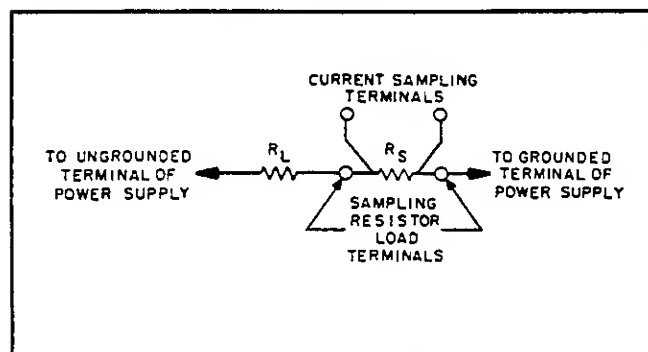

Figure 5-6. Current Sampling Resistor Connections
**5-40** For all output current measurements, the current sampling resistor must be connected as a four-terminal device in the same manner as a meter shunt would be. The load current is fed to the extremes of the wire leading to the resistor while the sampling terminals are located as close as possible to the resistance element itself (see Figure 5-6). A current sampling resistor should have low noise, low temperature coefficient (less than 30ppm/°C) and should be used at no more than 5% of its rated power so that its temperature rise will be minimized.